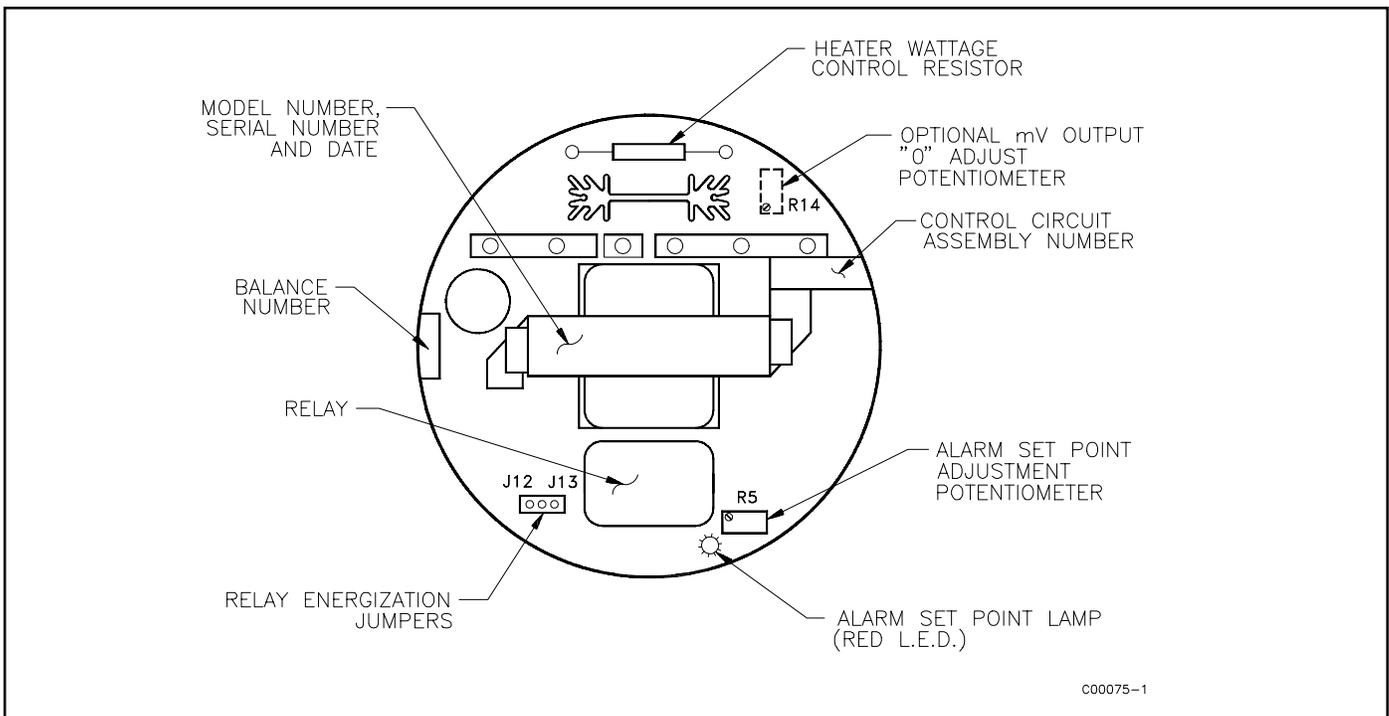

Figure 3-2. Control Circuit 5181 Outline Drawing
3. Locate the potentiometer (R5) and the red LED on the control circuit. (See Figure 3-2.)